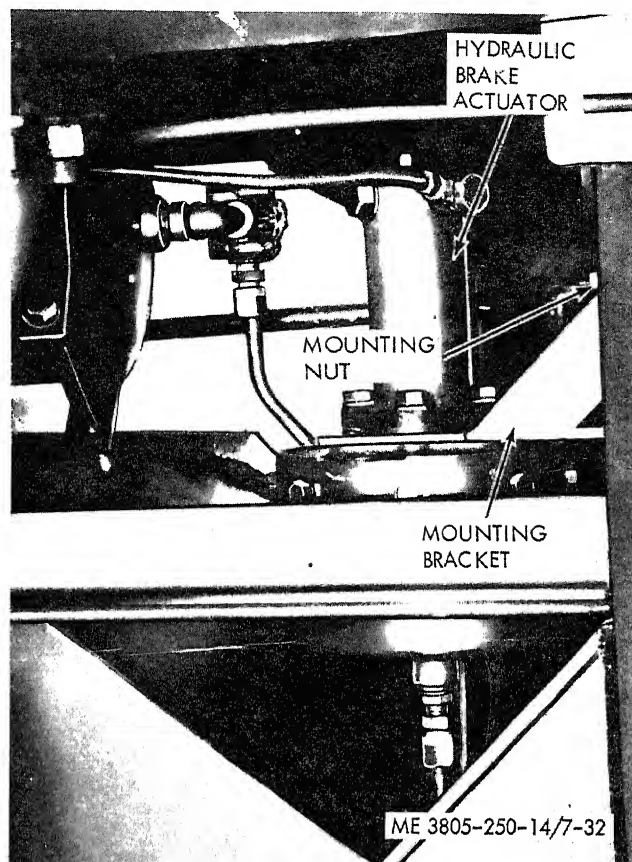

Figure 7-32. Hydraulic brake actuator, removal and installation.
*a. Removal.* Refer to figure 7-32.
(1) Block the wheels and engage the parking brake.
(2) Open the drain cock on the main air reservoir and depressurize the system.
(3) Clean the area around the actuator to remove dirt and grease.
(4) Disconnect lines to actuator. Cap or plug lines and fittings as soon as they are disconnected.